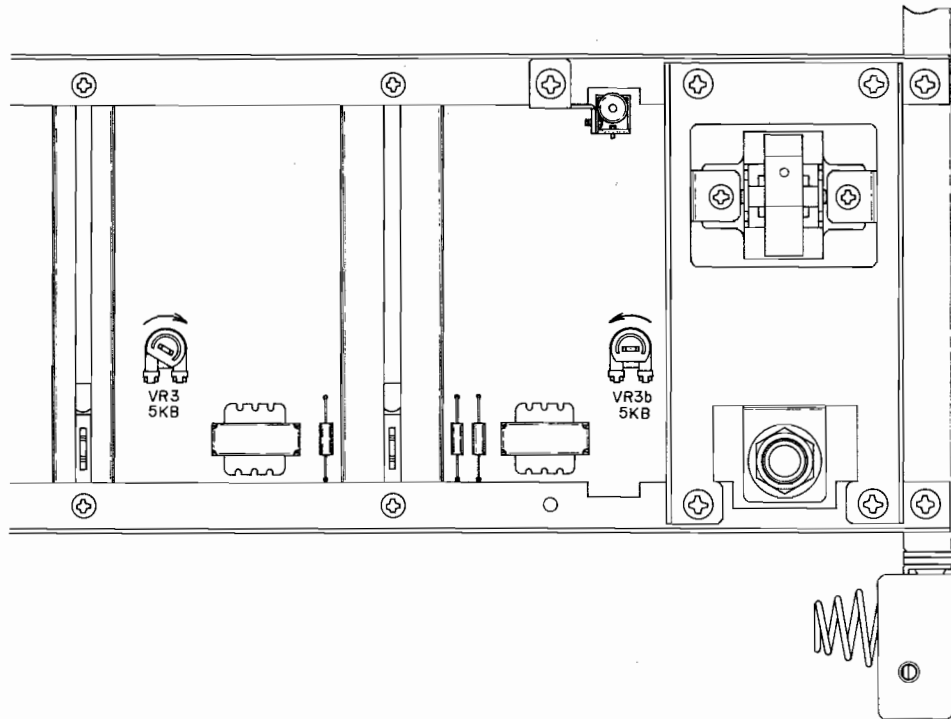

Fig. 4 VU Meter Sensitivity Adjustment
2. VU METER SENSITIVITY ADJUSTMENT (Refer to Fig. 4)